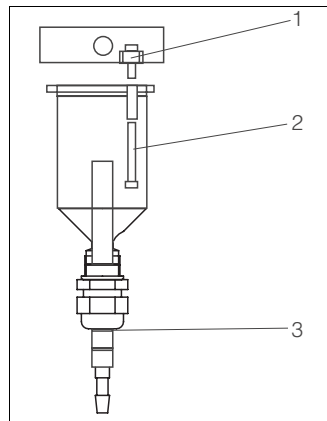
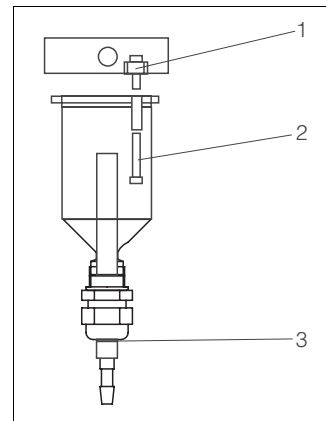

Fig. 7: One analyser
Fig. 8: Two analysers
1. In dependence of the application, mount the right adjusting pin or no adjusting pin (Fig. 7 and Fig. 8, position 2).